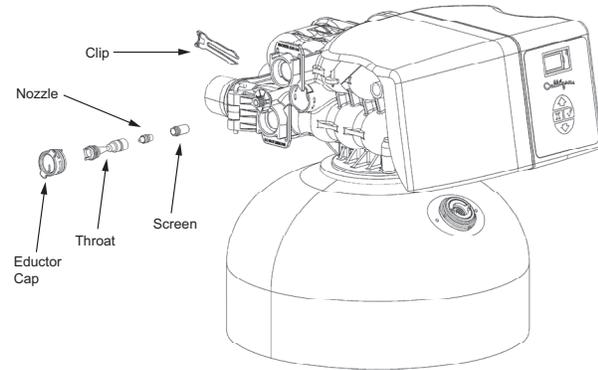

Figure 50. Removing the eductor nozzle and throat.
2. Remove the plastic clip from the upper service port opening (this port is located on the side of the valve body, just above the eductor plug). See Figure 50.